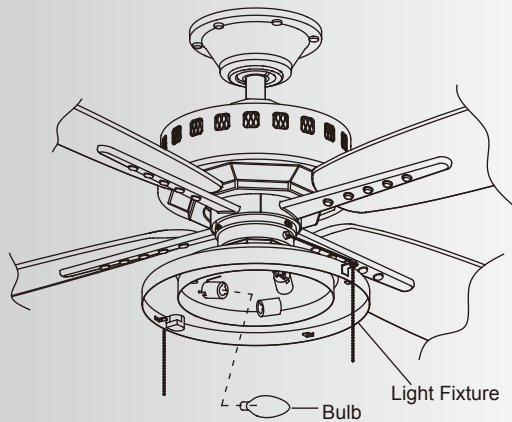

Fig. 24
Step 5. Install the 3, 60 watt candelabra base lamps (included) into the light fixture. (Fig. 24)